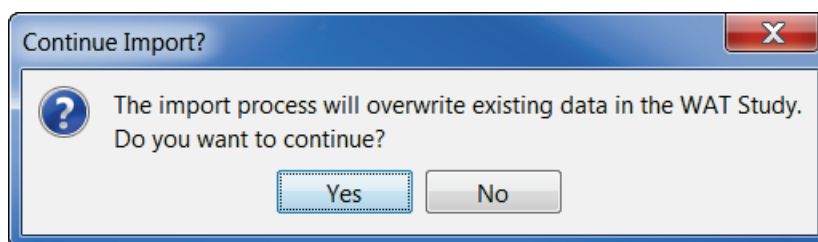

**Figure 8.16** Import CWMS Watershed Dialog Box
1. From the HEC-WAT main window (Figure 8.1), from the **File** menu, point to **Import**, click **CWMS Watershed**. The **Import CWMS Watershed** dialog box will open (Figure 8.16).